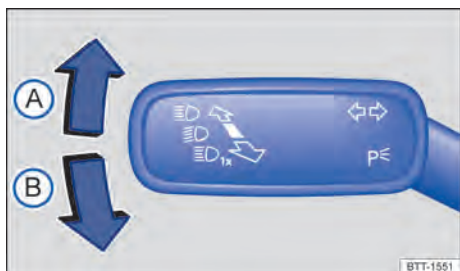

Fig. 84 On the left-hand side of the steering column: direction indicator and high beam lever.
2. Move the direction indicator and high beam lever from the centre position to the required position → Fig. 84.